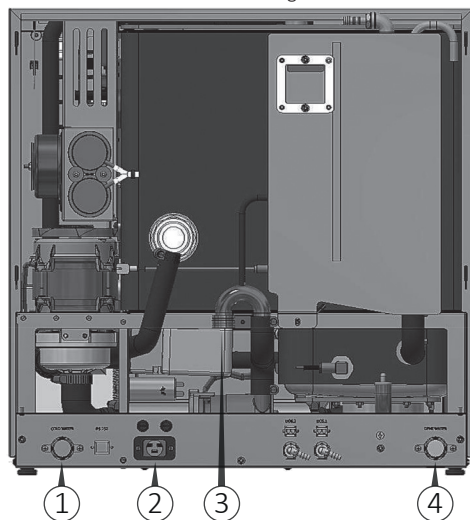

Fig. 8
- Make sure to connect the water flexible hoses in the positions shown in figure 8.
- Connect the cold water flexible hose to connection 1 in figure 8.
- Connect the purified water flexible hose (if any), to connection 4 in figure 8.
Connect the grey drain pipe to the drain solenoid valve located at the back of the machine (3 Fig. 8).